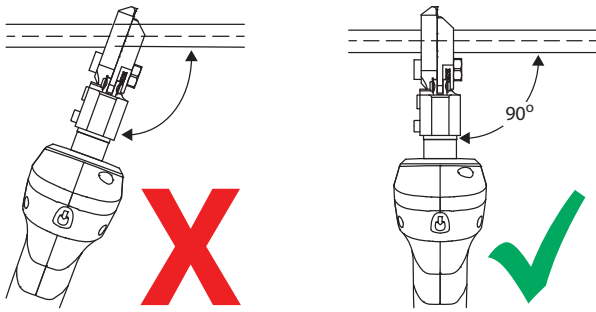

Figure 10
10. Position the tool at a 90° angle to cable (Fig. 10).